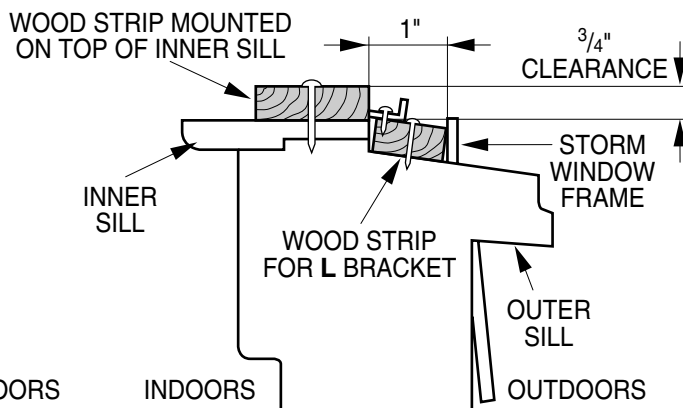

Fig. 5-2
2. If a storm window presents interference, fasten a 2" wide wood strip to the inner window sill across the full width of the sill. The wood strip should be thick enough to raise the height of the window sill so that the unit can be installed without interference by the storm window frame. See Fig. 5-2. The top of the wood strip should be approximately  $\frac{3}{4}$ " higher than the storm window frame (STORM WINDOW FRAME) or wood strip (OUTDOORS) to help condensation to drain properly to the outside.
3. Install a second wood strip (approximately 18" long by  $1\frac{1}{2}$ " wide and same thickness as first strip) in the center of the outer sill flush against the back off the inner sill. This will raise the L bracket as shown in Fig. 5-2.